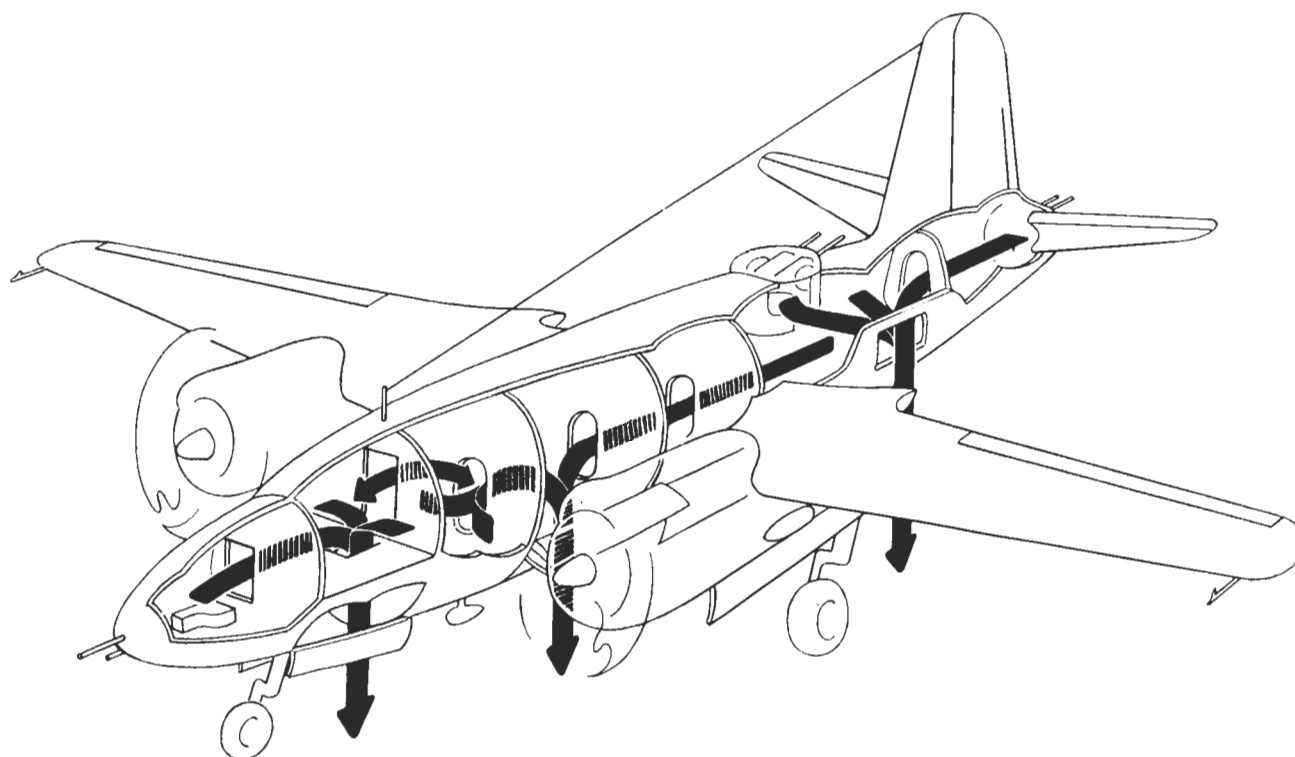

Figure 72 — Emergency Exits in Flight
- (1) Stand by to abandon. . . . 1 long flash or ring (6 seconds).
- (2) Emergency lifted. . . . 2 long rings or flashes (4 seconds each).
- (3) Abandon. . . . 3 short rings or flashes (2 seconds each, repeated).
c. EXIT FROM FORWARD COMPARTMENT. (See figure 72.) — The most direct exit from the pilot's or the bombardier's compartment is through the nose wheel well entrance hatch after the nose gear has been extended. Exit from the radio operator's and navigator's compartment is gained through the forward bomb bay doors which are opened from the bombardier's compartment with the bomb bay door selector handle or from the pilot's compartment with the emergency bomb release handle. The nose wheel
d. EXIT FROM AFT COMPARTMENT. (See figure 72.)— Either one of the two waist gun hatches or the aft bomb bay doors will furnish a safe